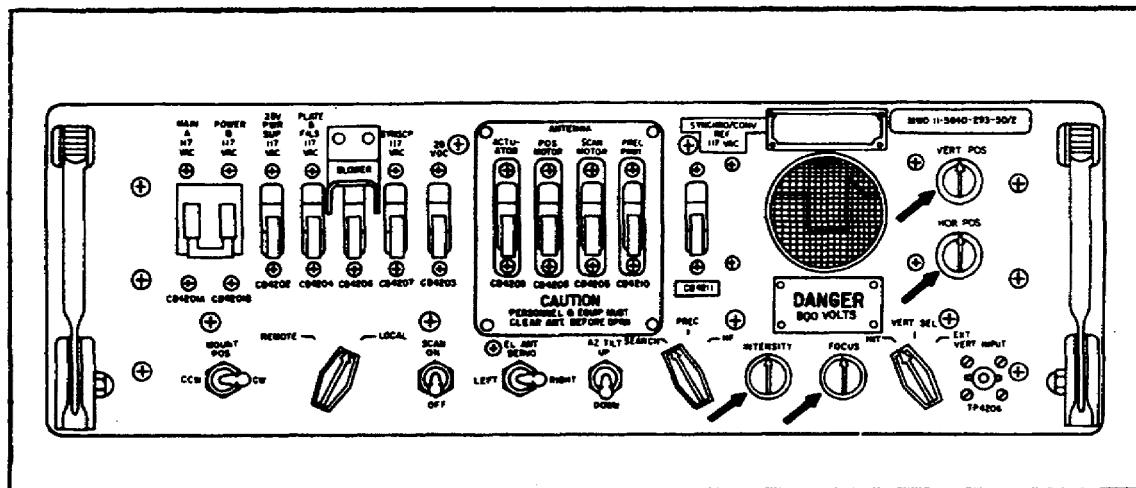

Figure 54. Adjustment of VERT POS, HOR POS, Intensity, and FOCUS controls.
n. Adjust VERT POS, HOR POS, INTENSITY and FOCUS controls as required to obtain a clear display on the CRT in control-monitor C-2124/FPN-33. (See Figure 54.)
- VERT POS control on control-monitor C-2124A/FPN-33 (Figure 54)
- HOR POS control on control-monitor C-2124A/FPN-33 (Figure 54)
- Intensity control on control-monitor C-2124A/FPN-33 (Figure 54)
- Focus control on control-monitor C-2124A/FPN-33 (Figure 54)